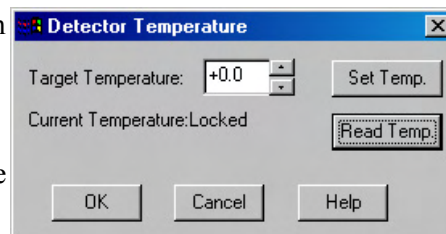

Figure 36. Temperature dialog box
1. Open the WinSpec/32 Setup menu and click on **Detector Temperature**. This will cause the Temperature dialog box to appear as shown in Figure 36.